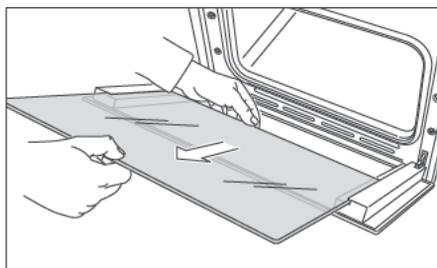

Fig.25e
- Gently pull out the inner pane of glass (Fig. 25e).